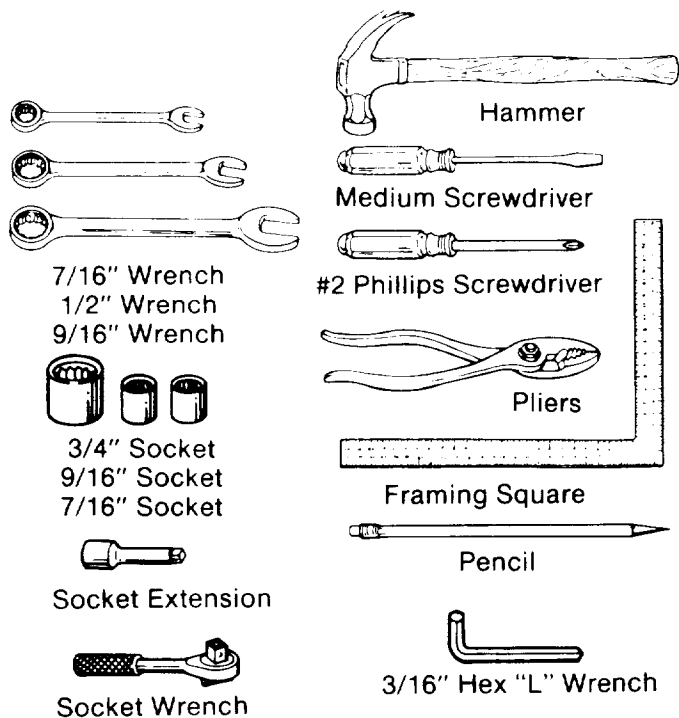

Fig. 11 - Tools Required
3. Identify the tools required for assembly. Make sure that you have all of the tools you will need. (Figure 11)